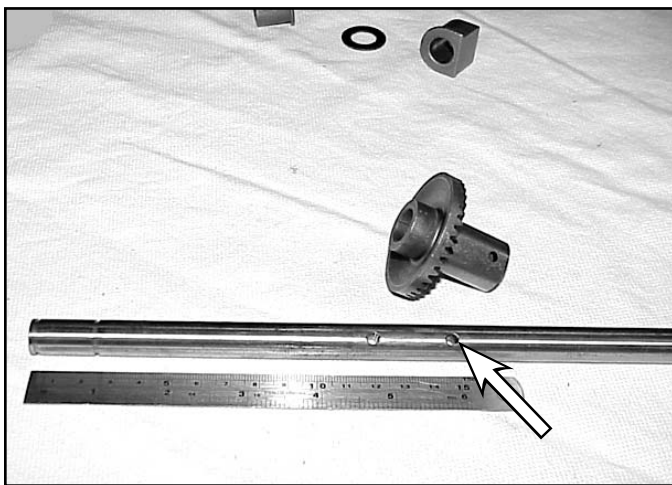

Fig 052
1. The same axle is used for both front and rear drive versions. There are two holes in the axle about one inch apart. Front wheel drive transmissions use the hole in the axle that is about 5 $\frac{3}{4}$ " (14.6cm) from the end or closest to the center of the axle (Fig. 052).